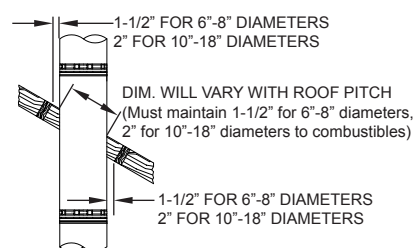
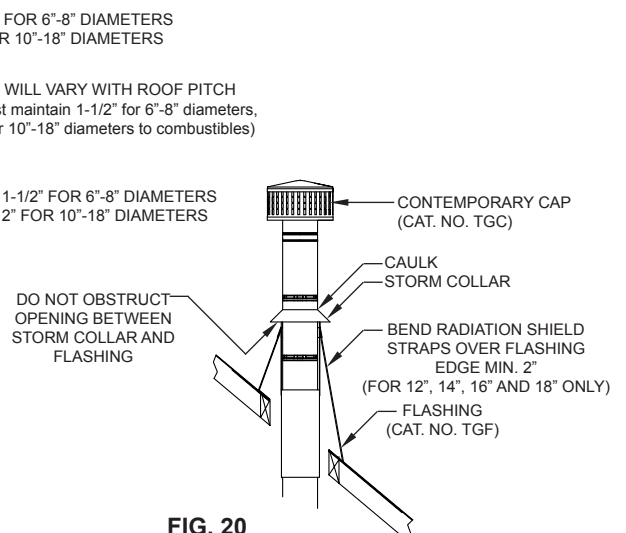

FIG. 19
FIG. 20
2. Install the next TG chimney section through the roof. See **FIG. 19**. For 12", 14", 16" and 18" chimneys only, install a radiation shield (TGRSH) over the chimney section so that the shield straps can be temporarily bent over the roof to hold in place. After installing the flashing, these straps will be attached to the flashing as shown in **FIG. 20**.